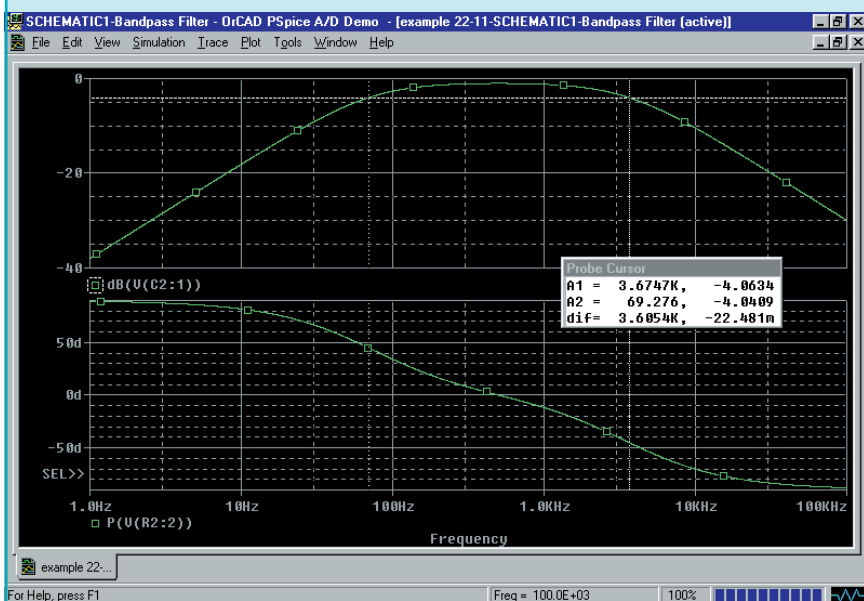

FIGURE 22–40
- Use OrCAD Capture to input the circuit of Figure 22–35.